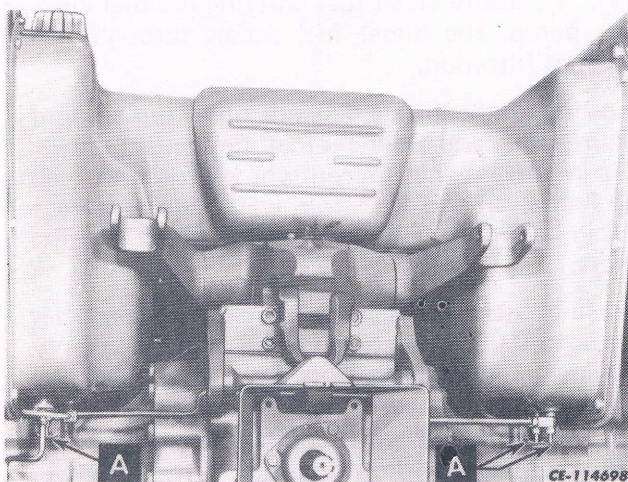

Fig. 27. Fuel Shutoff Valves
1. Close the three fuel shutoff valves below the fuel tank. (Fig. 27).
a. Insert the hollow bolt (5) with packing ring (4) through glass bowl (1).
b. Install the element (10) and packing rings (6, 11) over the hollow bolt (5) making sure the element (10) and packing ring (11) sit squarely in the glass bowl (1).
2. Position the preassembled parts to the base making sure packing rings (6 and 11) seat squarely. Tighten the crown nut (13) with packing ring (12) to the hollow bolt (5).
3. Reinstall vent screw (8) with packing ring (9) and drain valve (2) with packing ring (3).
4. Open the three fuel shutoff valves (Fig. 27) below the fuel tank.